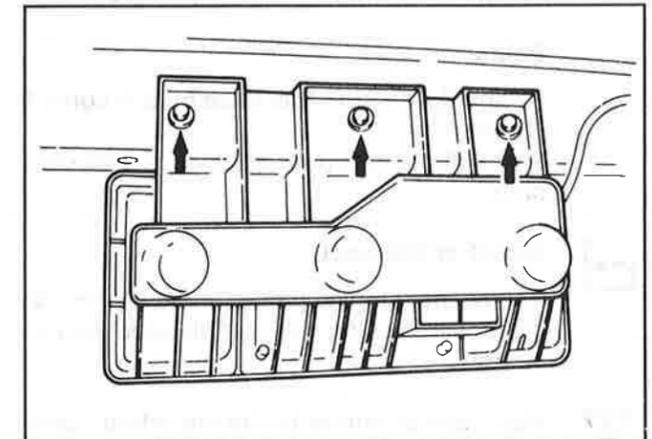

Figure 99. Loosen The Bolts
2. Loosen the bolts (figure 99).